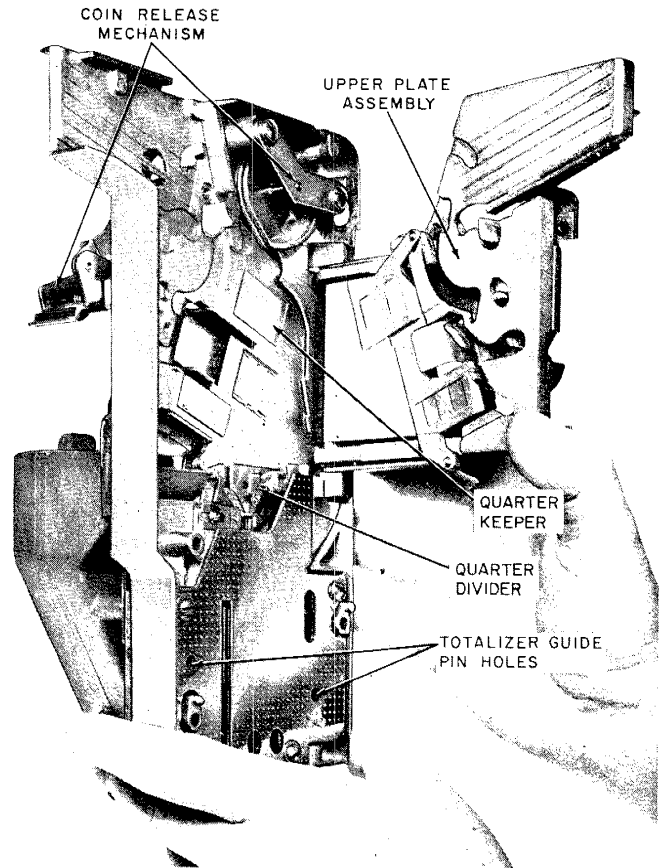

Fig. 20—Coin Chute Assembly
- (1) Operate coin release lever in attempt to clear coins into return chute.
- (2) If trouble does not clear
- Swing upper plate assembly open (Fig. 20).
*Exercise extreme care when closing the upper plate assembly. If the quarter divider (Fig. 20) gets positioned differently from the way shown, it may become damaged when the upper plate assembly is closed.*
- (3) If no foreign objects are found and coins will not pass through chute, replace coin chute assembly.